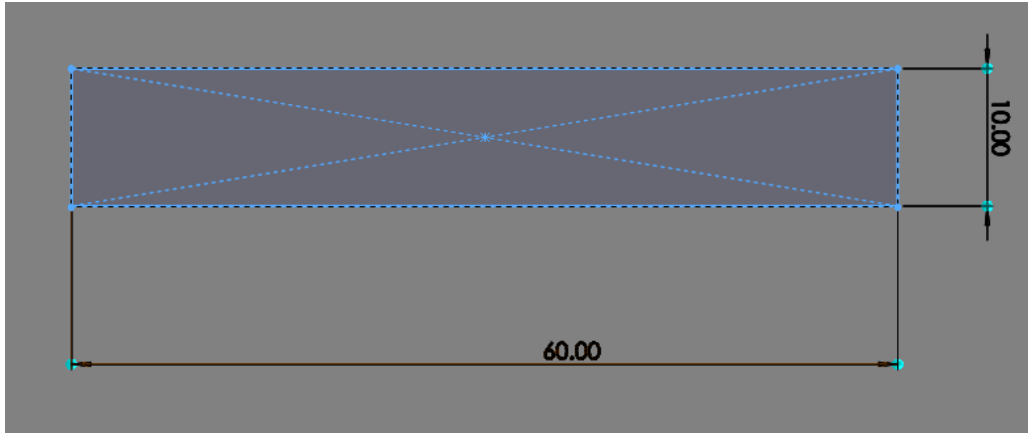

Figure 13: Window Plastic Cutout Dimension (in mm)
7. If you printed the windowed version of the bottom parts, mark on your clear plastic sheet the shape seen in Figure 13. Score the shape using a sharp object then snap off the piece or use some sharp snips or scissors. Alternatively, you can use a cutting tool like a Dremel, as the window channel will hide any imperfections to your edges up to 1mm from the edge.